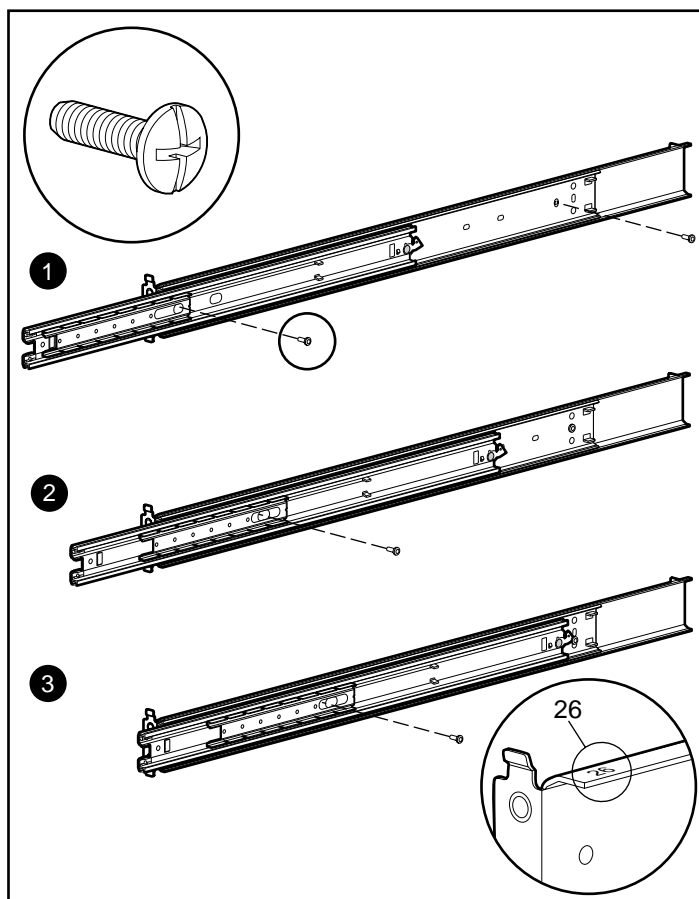

Figure 3-7. Attaching the bracket rail to the mounting bracket
6. Fasten the bracket rail to the mounting bracket with one 8-32 x 1/4-inch slotted screws. (Do not use nuts or washers with the screws.) See step ❶ of the following figure.
7. Adjust the inner slide to access the other two screw holes, one at a time, through the slotted opening in the inner slide. Use two more 8-32 x 1/4-inch slotted screws to fasten the bracket rail to the mounting bracket. See steps ❷ and ❸ of Figure 3-7.
Figure 3-7 shows inserting the screws into the appropriate holes. The screws will line up with the 26-inch markings stamped along one edge of the mounting bracket. These marks identify the mounting holes for the 26-inch slides used in Compaq racks. (The other markings stamped along the opposite edge are for use with slides that support other components.)